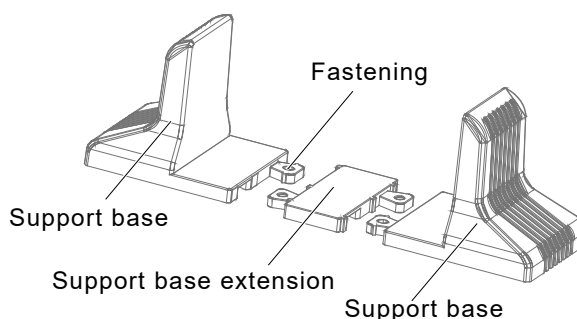

Figure 2-4 Connecting the support base with support base extension
1. Take out the support bases from the accessories, assemble a pair of support bases and a support base extension (accessory) together through the fastenings, as shown in Figure 2-4, and place them onto the flat installation table.